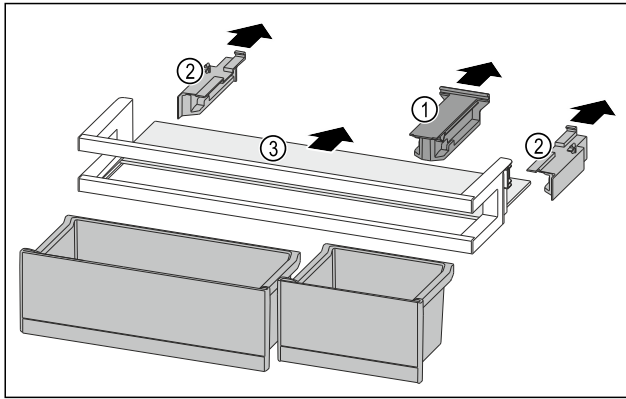

Fig. 132
- ▶ Pull off the holding part Fig. 132 (1).
- ▶ Pull off the side parts Fig. 132 (2).
- ▶ Remove the shelf Fig. 132 (3).